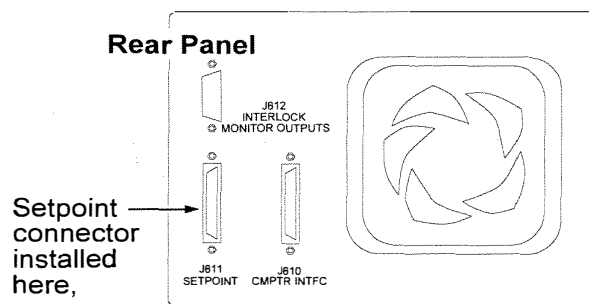

Figure 2-4. Location of Setpoint Connector
1. Install the male connector of the ribbon cable through the J611 opening (Figure 2-4) from the inside of the unit, so that the colored stripe (Pin 1) is on top.